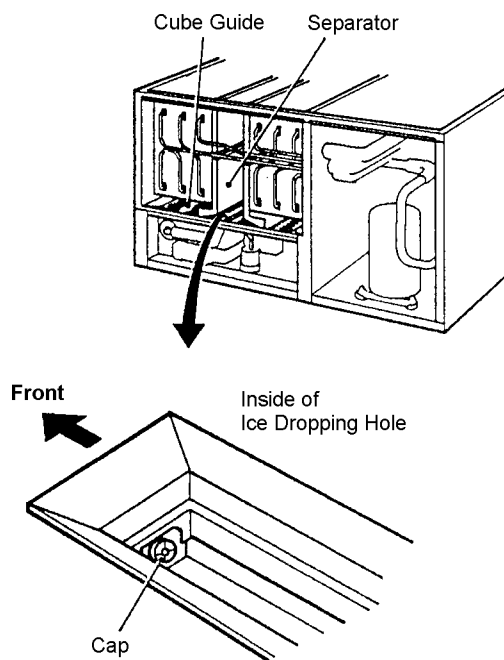

Fig. 3
- 3) Drain the Water Tank by removing the Insulation Panel and the Cap located on the front bottom part of the Ice Dropping Hole. See Fig. 3.
- 5) Drain the Water Tank by removing the Cap located on the front bottom part of the Ice Dropping Hole. See Fig. 3.